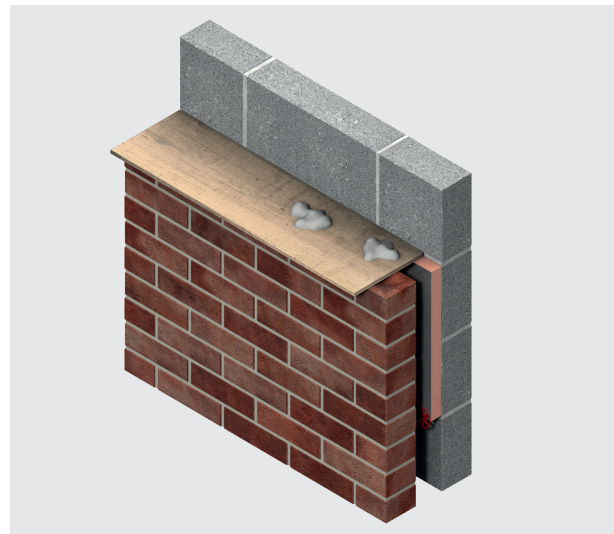

Figure 4: Use of a cavity board to protect the cavity and insulation board top edge
- Use of a cavity batten or cavity board is recommended to protect board edges and maintain a clear cavity (see Figures 4 & 5 or refer to BBA Certificate 14/5134).